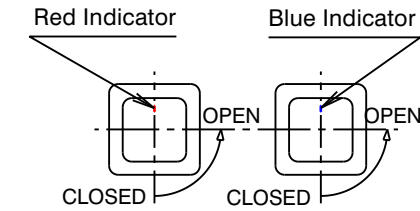

Fig. 3
- 2) Check seats in recess tap bodies (1) are in good condition and free of foreign materials. Reseat if required.
- 3) To install ceramic disc cartridges (2), first remove protective cap (3), cartridge nut (4) and fibre washer from cartridge (2). Screw cartridge (2) into tap body (1). Tighten cartridge (2) until it comes to a firm stop. (DO NOT TIGHTEN CARTRIDGE USING SPINDLE) Fit fibre washer and then cartridge nut (4) and tighten.
- 4) Rotate cartridge spindles (5) to the fully closed position (Fig.3), then fit handle inserts (9) onto spline of cartridge spindle and check that the square on each insert is in horizontal alignment (temporarily fit the handle (14) onto the handle insert to confirm). For small adjustments to handle positions, cartridge (2) can be rotated **slightly** in an anti-clockwise direction until handles are aligned (Fig 3) before tightening cartridge nut (4). Remove handles after the alignment check, then fit screw (10) to retain the handle inserts (9) to the cartridge spindle (5) & tighten.
- 5) Place wall flange (7) together with 'O'ring (6) over each installed cartridge, check that flanges (7) are horizontally aligned (Fig.3), then screw on retaining nut (8) and tighten until the 'O'Ring (6) is compressed against the wall/tile face.
- 7) Check that the cartridge spindles (5) are rotated to the closed position with the handle inserts (9) in horizontal alignment as before then fit each handle (14) onto the insert (9) with the red & blue markings as shown (Fig.3). Push the handle onto the insert (9) until it contacts the face of the retaining nut (8) then tighten screw (13) using the 2.5mm allen key (12) provided. Fit plug (11).